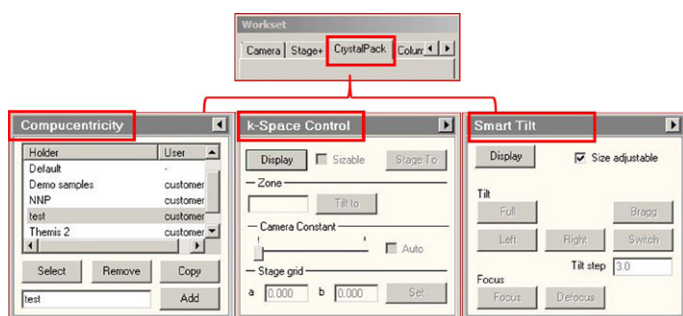

Figure 1. CrystalPack Module.
2. Ensure that the CrystalPack Module is loaded into a single workspace including the **three** parts: **Compucentricity**, **K-space Control**, and **Smart Tilt** (Figure 1). It is advised that these control panels be grouped into the same tab for convenience.
- 4.5 Go to the CrystalPack tab and select the **Compucentricity** panel (Figure 1) and create a specific compucentricity file name for the selected holder and press **Add**.